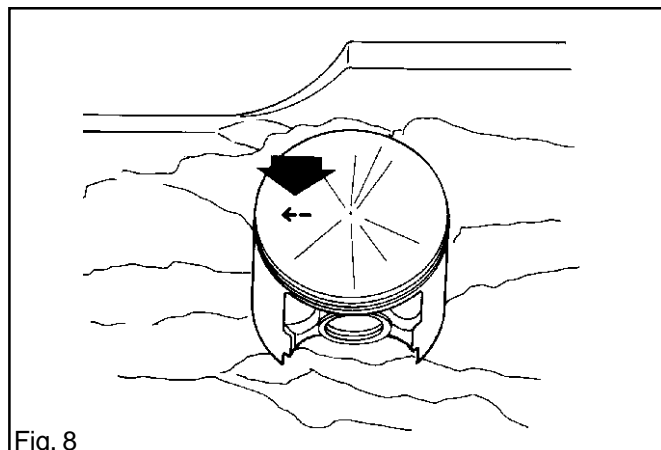

Fig. 8
2. Replace the piston with the arrow facing the exhaust port. See fig. 8. Slide in the gudgeon pin and fit the circlip.